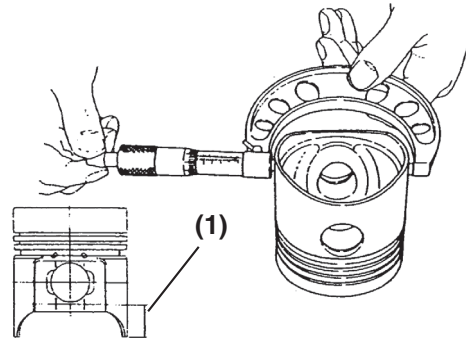

Figure 6-111
4. Measure the diameter of the piston skirt at 90° to the wrist pin bore as shown (**Figure 6-111**). Measurements must be taken at a specified distance (**Figure 6-111, (1)**) from the bottom of the piston, based on engine model. Record the measurements. See *Piston on page 6-15 for specifications*.